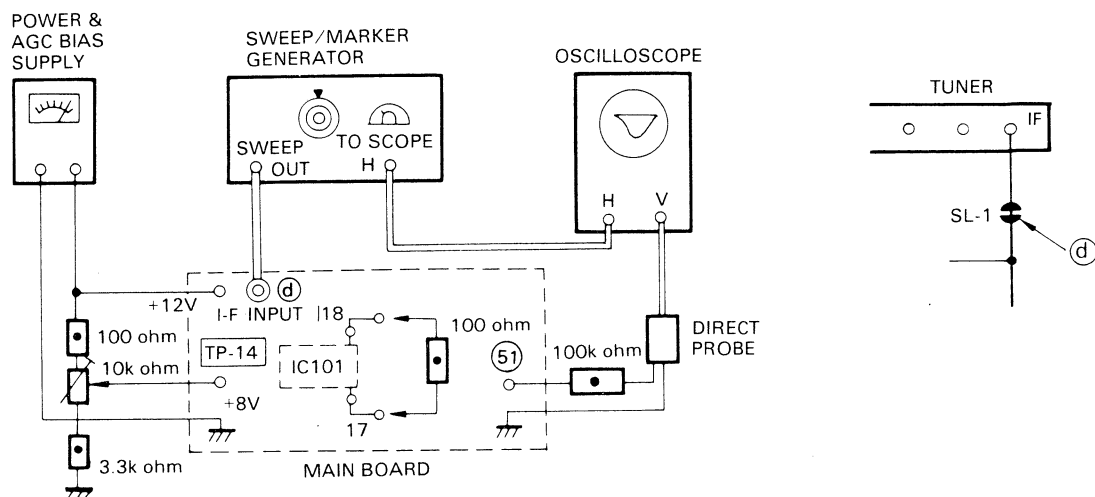

Figure 10. Picture I-F Sweep Alignment
GENERAL Refer to Figure 10 for test equipment connection.
PRELIMINARY STEPS 1. Disconnect the solder link SL-1 (● see Figure 10) on the foil side of the Main Board.
SWEEP/MARKER GENERATOR Connect to the point ④ as shown in Figure 10 on the Main Board.
- PRELIMINARY STEPS** 1. Disconnect the solder links SL-1, SL-3, SL-4 (● see Figures 10 and 13) on the foil side of the Main Board.